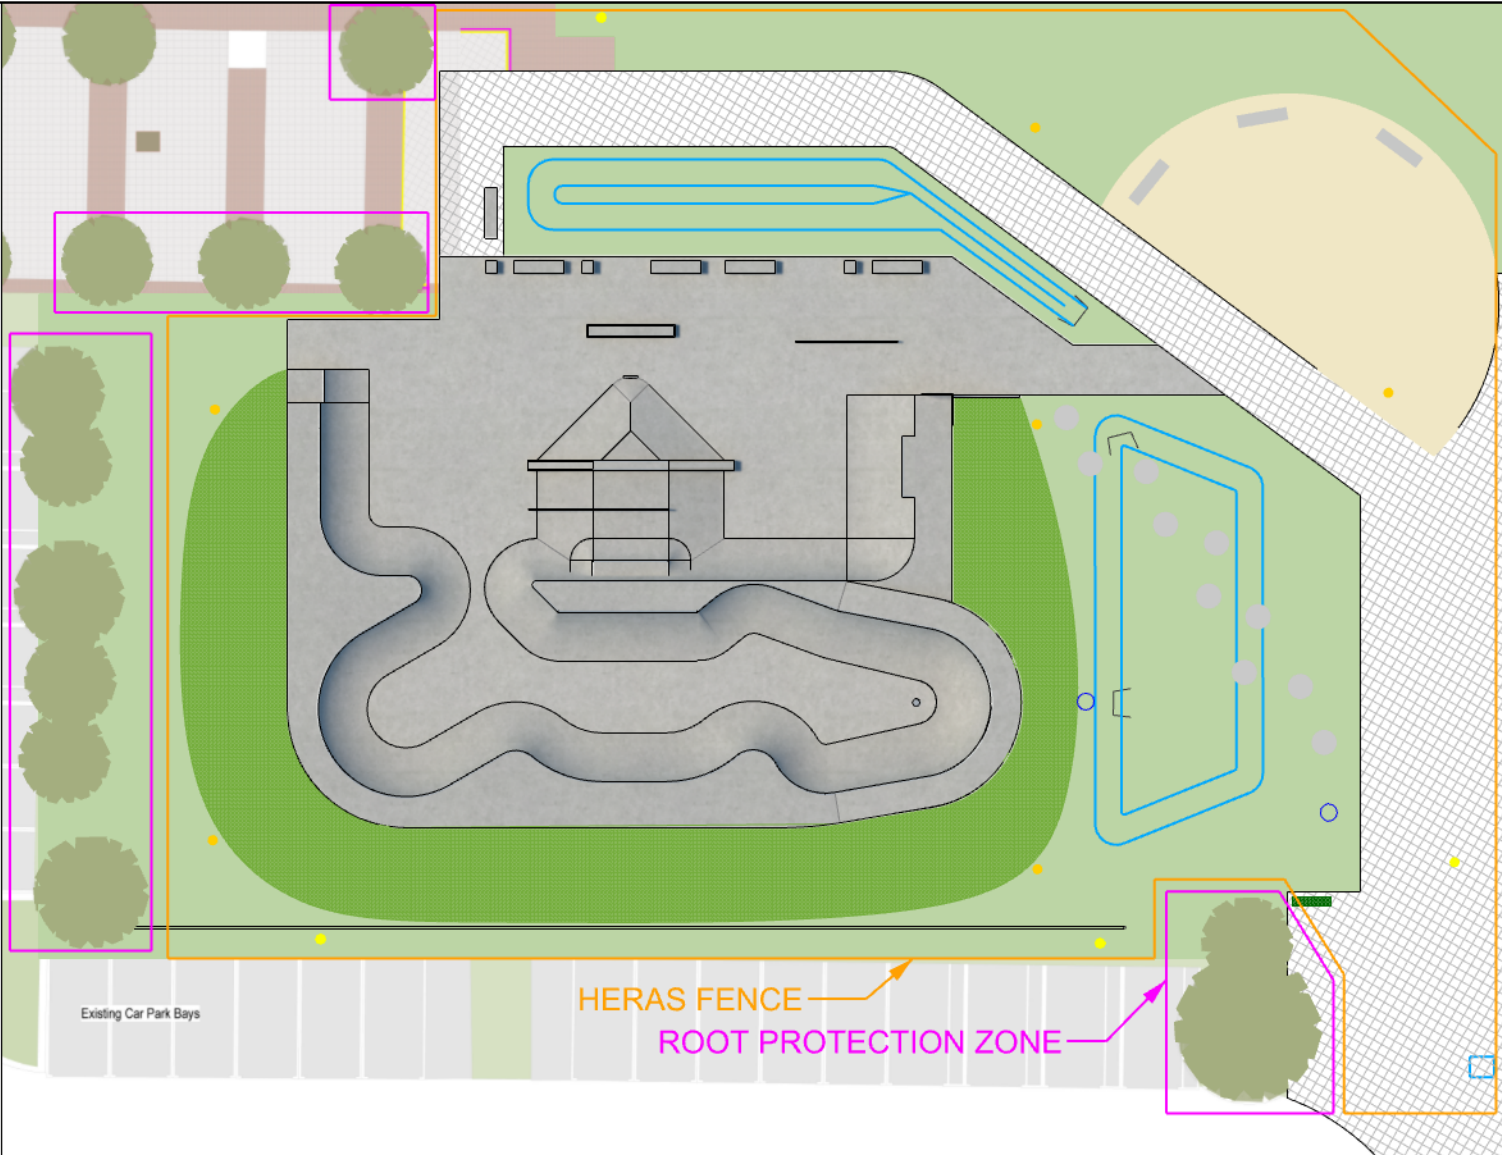

Figure 1 Fence Specification Soft Ground
- 1.4** They must be constructed as per Figures 1 and 2 in BS 5837 2012 and be fit for excluding any construction activity, (See Appendix I). Alternatively the site hoarding can be used instead of Heras fencing.. Any other fence or barrier used must be fit for the purpose.
- 1.5** The fencing unless otherwise agreed with the tree officer shall consist of Heras fencing panels, around 3.5m long and 2 m tall or site hoardings. They shall be fixed into the ground on scaffold poles driven at least 0.6 m into the ground. They shall be supported by rear struts also secured to posts driven into the ground, see Figure 1 in Appendix I.